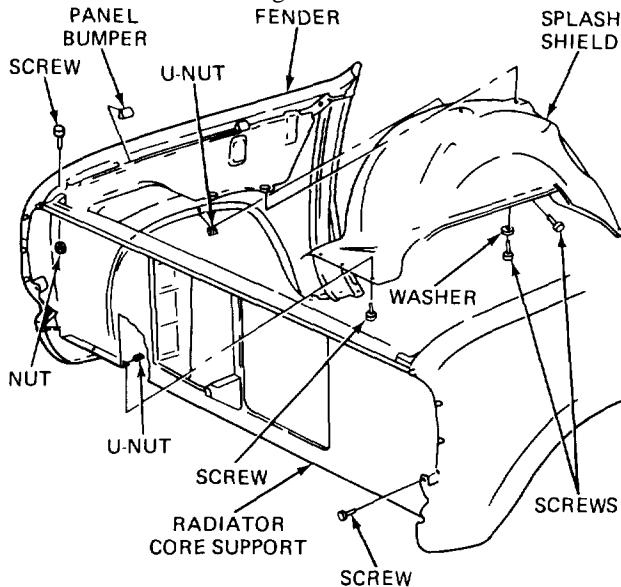

Figure 26-1. Radiator Core Support and Splash Shield.
a. Removal. Refer to figure 26-1.